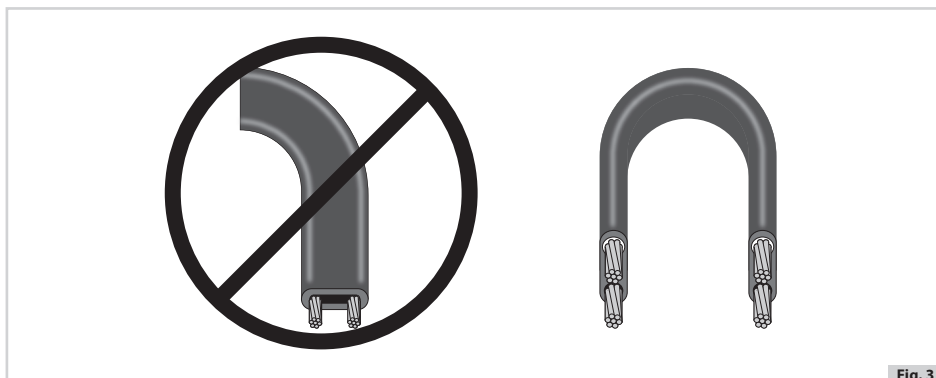

Fig. 3
- 5.6 The Trace Heater must be bent exclusively perpendicular to the plane of its buswires (see Fig. 3).